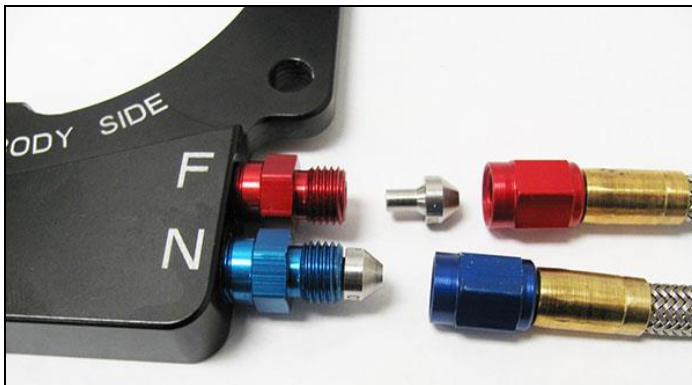
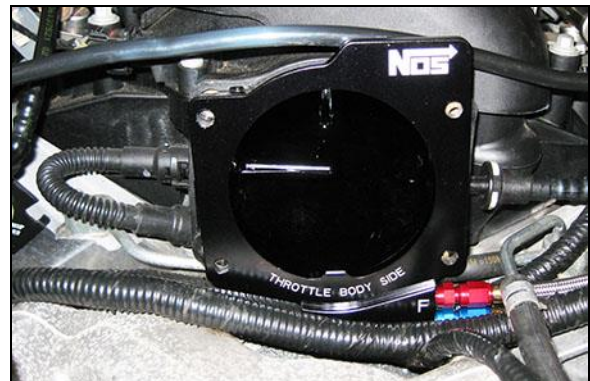

Figure 4
Figure 5
6. Assemble the nitrous plate supply lines to the appropriate fittings with the desired jets installed as shown in **Figure 4**. (See Chapter 3, table 2 for suggested jetting). Route the supply lines as shown in **Figure 5** and line up the plate with the side labeled "INTAKE SIDE" toward the intake, "THROTTLE BODY SIDE", facing out.